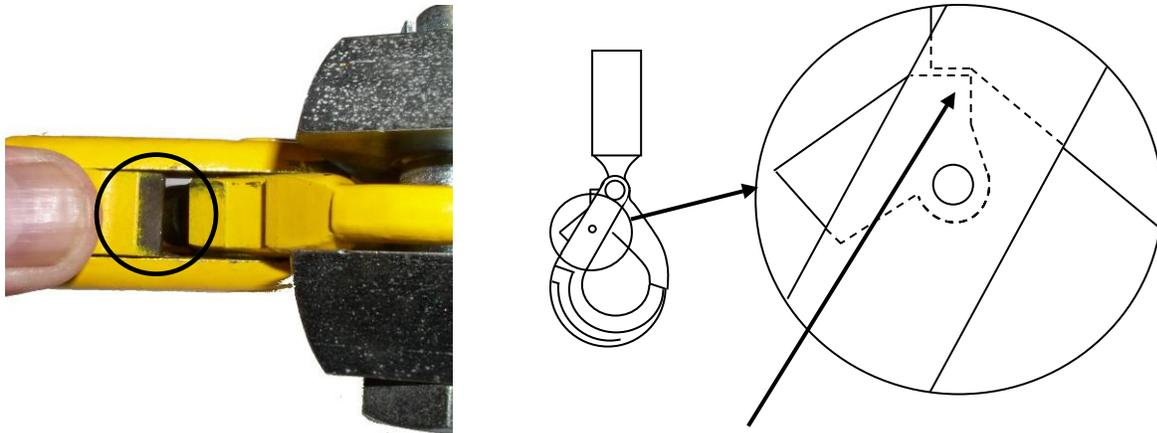

Figure 5. Examine Gate Lock Latch for rounding.
- Examine lock latch for rounded lock shoulder, see Figure 5
- Ensure lock latch pin is secure and flush with the latch, see Figure 5. If latch is damaged, does not operate as required, is missing hardware, or does not meet dimensional requirements remove from service.